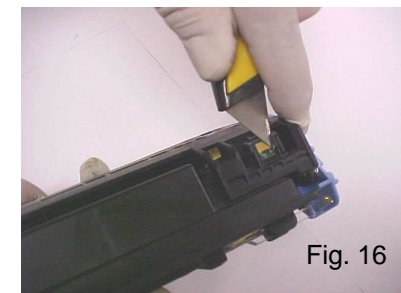
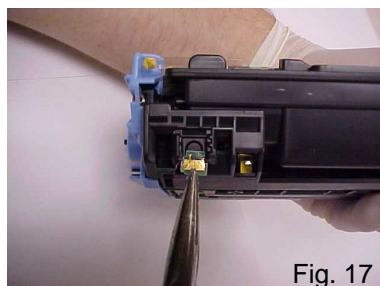

Fig. 16
Fig. 17
17. On the waste hopper, pry open the chip housing (Fig. 16) and pull the OEM chip up and out (Fig. 17).